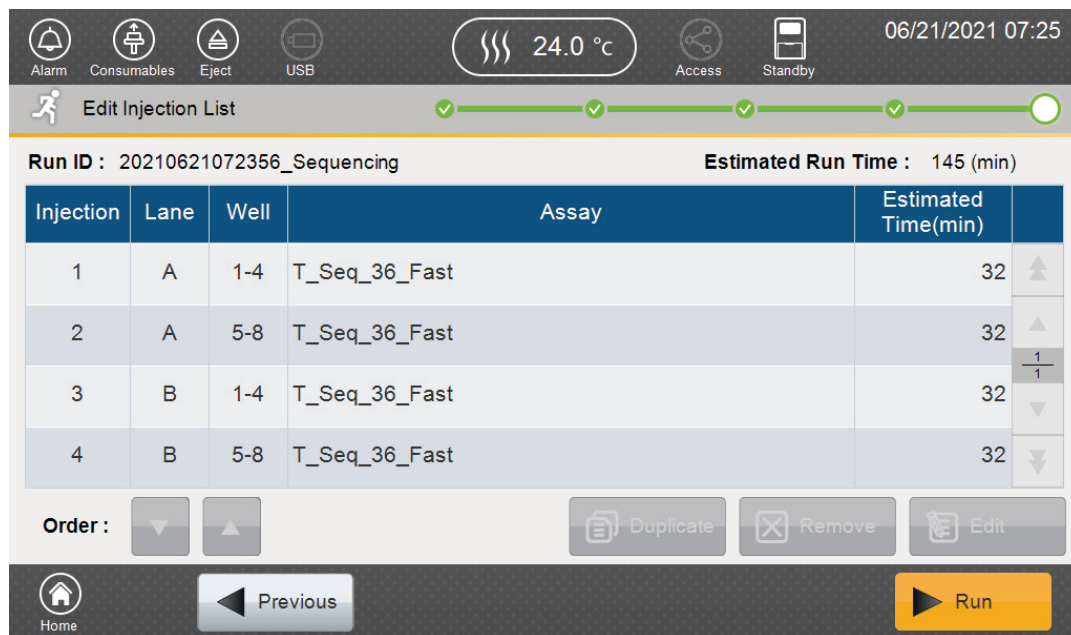

Figure 21. 'Edit Injection List' screen.
- After the autosampler has returned to its home position, the 'Edit Injection List' screen will be displayed (Figure 21).